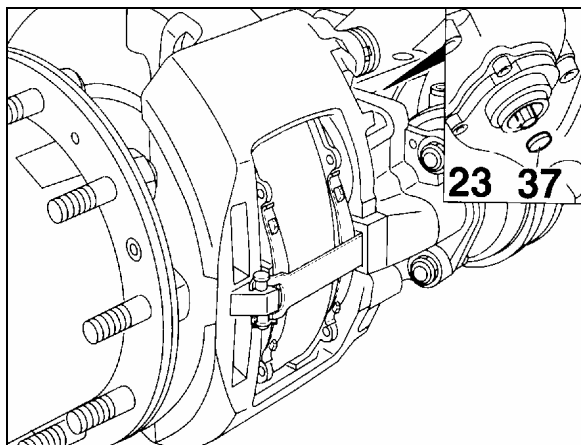

FIGURE 27: ADJUSTER PINION 12120
b) Using a box wrench (8 mm), turn the adjuster pinion (23, Fig. 27) counterclock-
wise about 2 - 3 clicks to increase running clearance. By operating the braking system about 5 - 10 times (30 PSI or 2 bar), the wrench should turn clockwise in small increments if the adjuster is functioning correctly (Figs. 27 and 28).